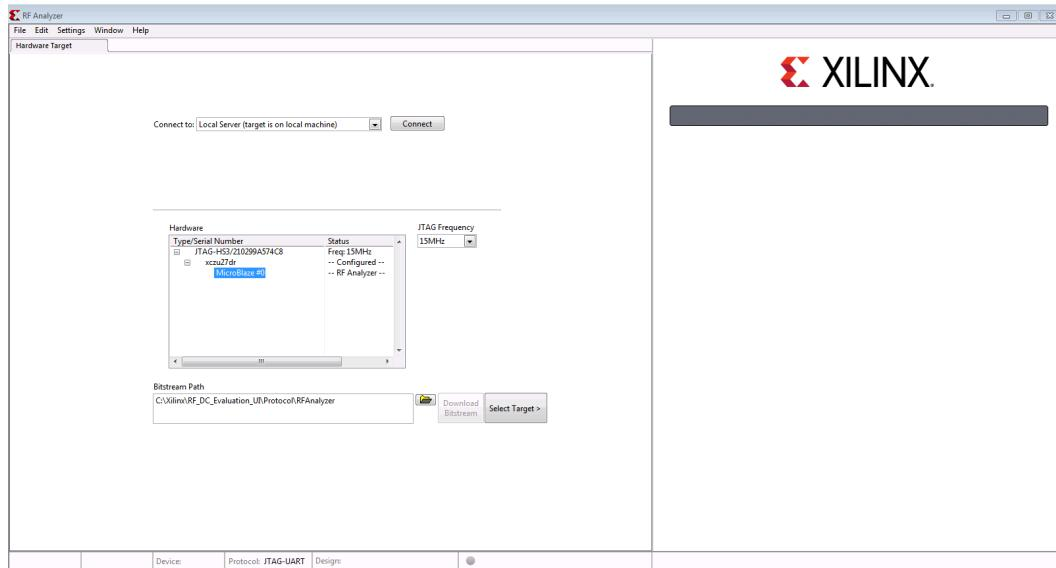

Figure 21. RF Analyzer select target
8. Connect to the local server and select “MicroBlaze #0” as illustrated on Figure 21. The bitstream can not be loaded on the application due to conflicts with the PLL configuration on Linux.